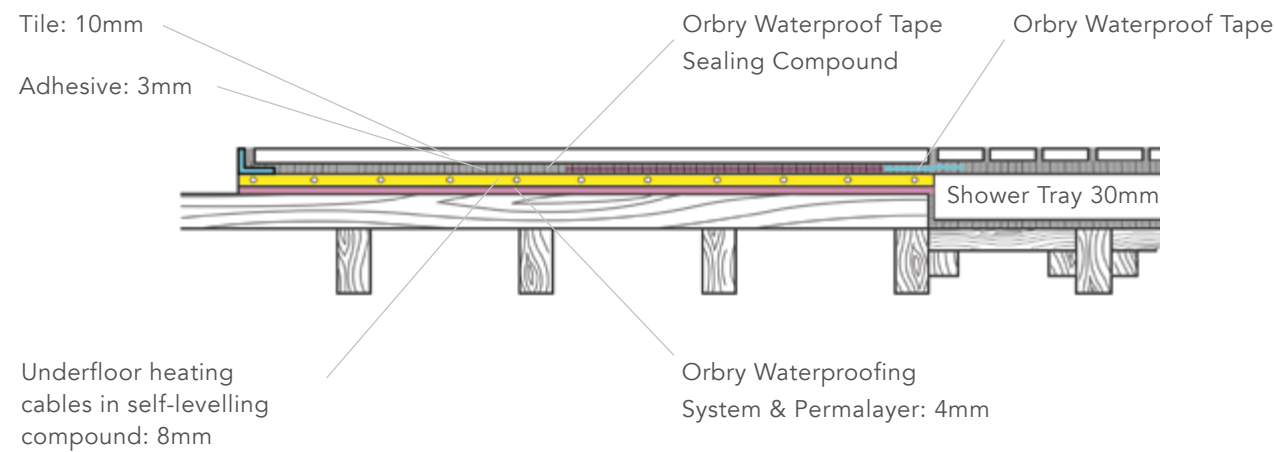

Fig. 21
4. When dry, fix Orbry Electric Underfloor Heating following the included instructions (Fig. 21).